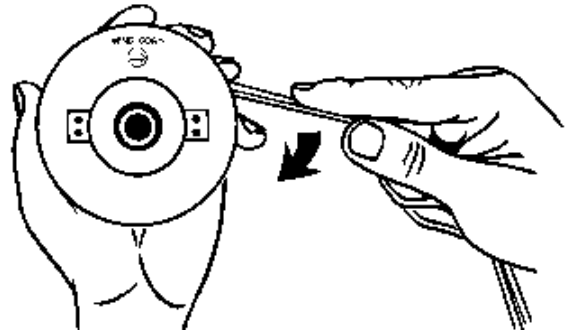

Fig. 15
5. Wind the trimming line clockwise (Fig. 15). Keep tension on the line, and make sure each half of line is separated by the spool divider. Continue winding until the line is within 6 inches (15 cm) of the ends.